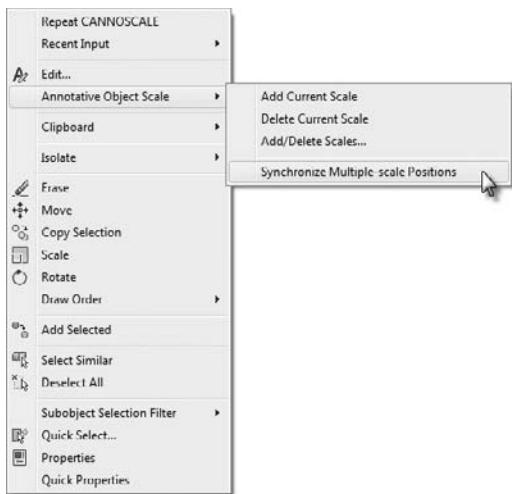

FIGURE 8.22 Choosing the Synchronize Multiple-Scale Positions option from the contextual menu
3. With the LIVING ROOM text still selected, right-click and choose Annotative Object Scale > Synchronize Multiple-Scale Positions from the contextual menu shown in Figure 8.22.